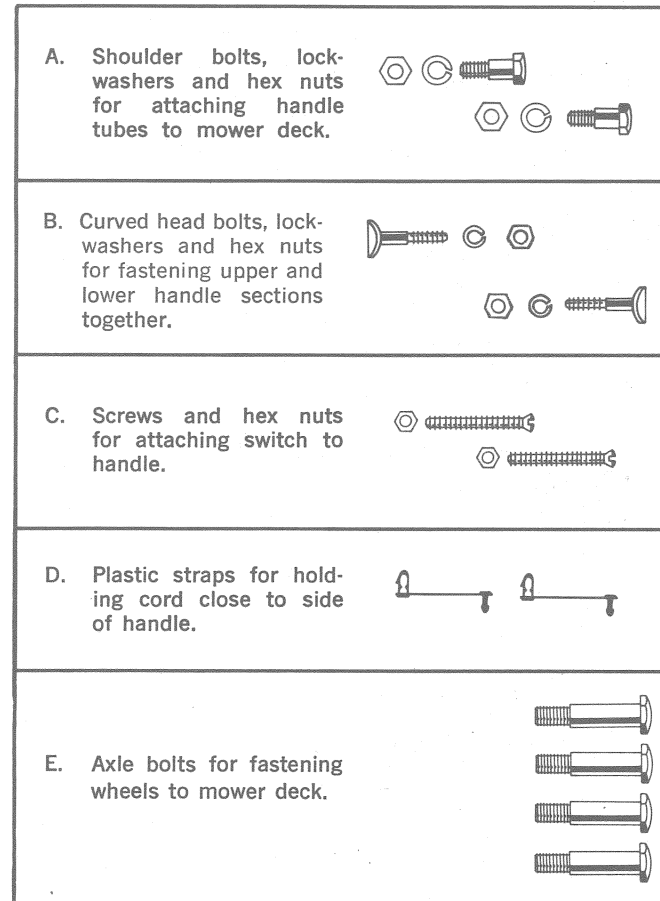
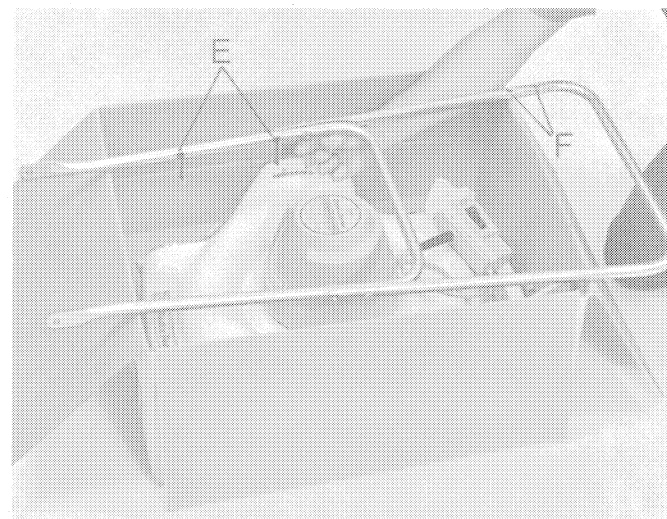
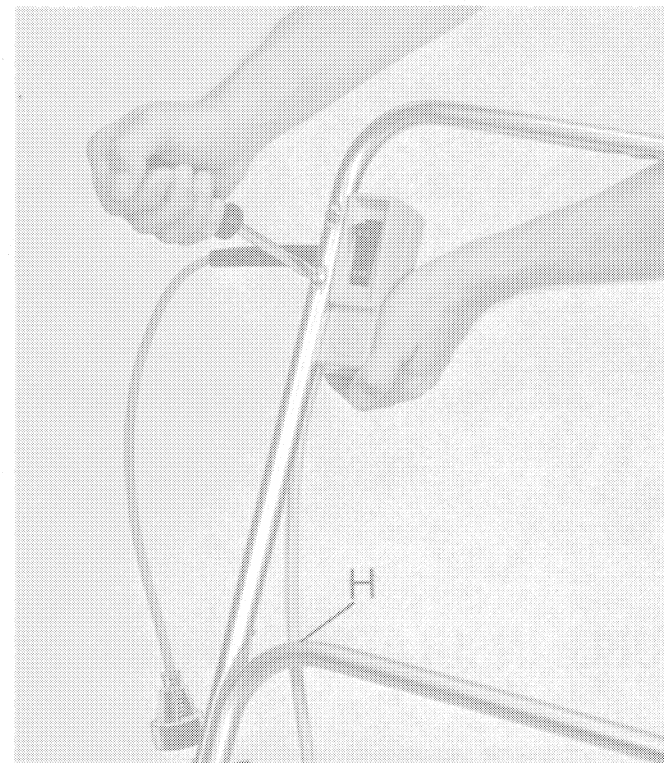

FIGURE 1
FIGURE 2
FIGURE 4
1. Open carton and remove cardboard fillers and plastic hardware bag(s) (contents shown in Figure 1).
2. Without removing mower from carton, insert larger, hollow end pegs on plastic straps (Item "D", Fig. 1) into holes in lower handle section at locations "E", Figure 2. (These straps will be used later in step 5 to hold the cord close to handle.)
Fasten upper and lower handle sections together (Figure 2) with curved head bolts, hex nuts and lockwashers (Item "B", Figure 1).
IMPORTANT: Handle must be assembled so that plastic straps "E" (Figure 2), and switch mounting holes "F" are on the same side as the grass discharge opening.
3. Attach handle to mower deck with 2 shoulder bolts, lock washers and nuts (Item "A", Figure 1). Squeeze handle legs together slightly to fit them into mounting brackets. Lockwashers go on outside under nuts. Tighten with two wrenches as shown in Figure 3.
4. See Figures 4 & 5. With power cord under center cross tube "H" (Figure 4), attach switch using two oval head screws and nuts (Item "C", Figure 1).